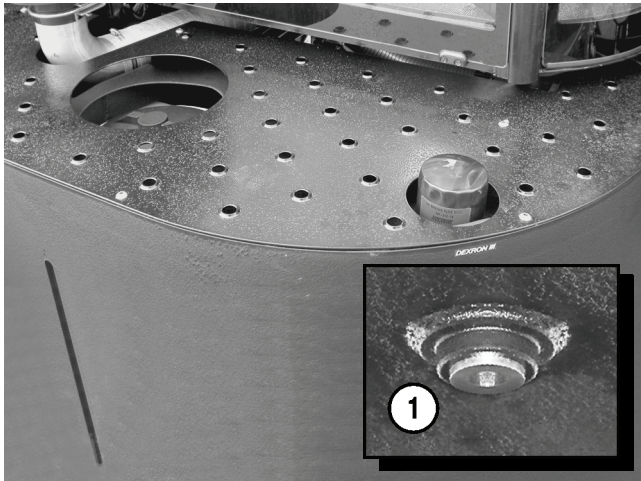

Figure 5-39
1. Remove the hydraulic fluid drain plug (**Figure 5-39, 1**) from the bottom of the reservoir and drain the fluid into a suitable container with a capacity of more than 30 gallons (113.5 liters).